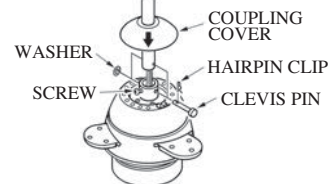

FIG.3
3. Remove the 2 set screws in the motor coupling and securely tighten screws against the downrod assembly.(see Fig.3)